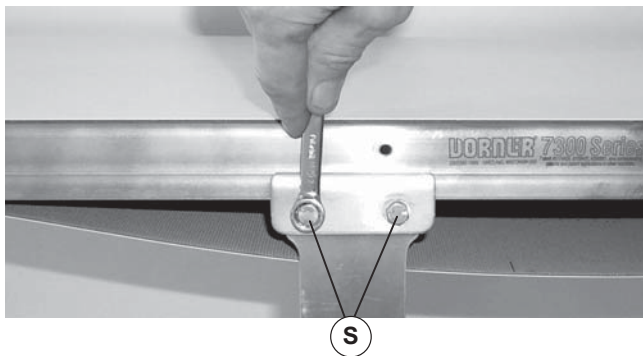

Figure 27
3. Loosen two clamp plate screws (Figure 27, item S) on side of conveyor opposite drive motor.
3. Tighten two clamp plate screws (Figure 27, item S)